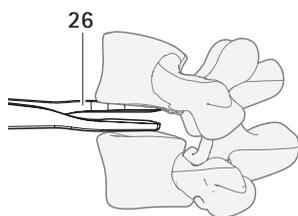

Fig. 18 Inserting working tip into intervertebral space
- ▶ Insert the working tip **26** into the intervertebral space, see Fig. 18. When doing so, ensure that the instrument is pushed as dorsally as possible into the intervertebral disk space.